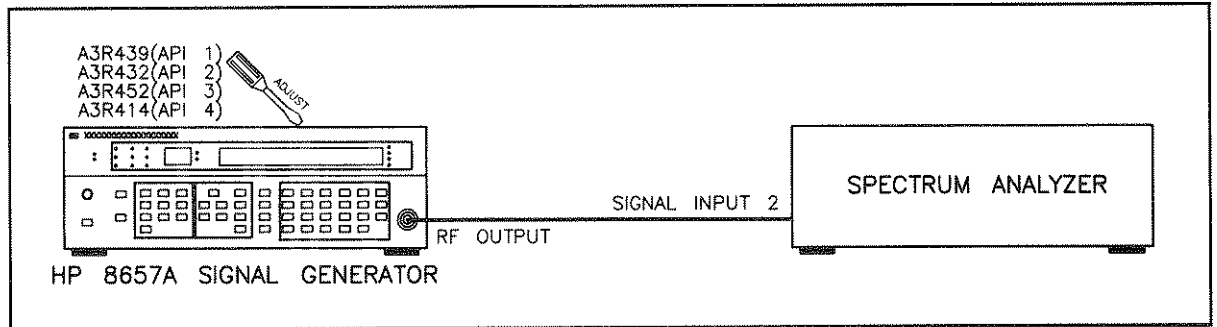

Figure 5-17. API 1, 2, 3 and 4 Adjustment Setup
- Connect the RF OUTPUT of the Signal Generator to the spectrum analyzer SIGNAL INPUT 2 as show in Figure 5-17.